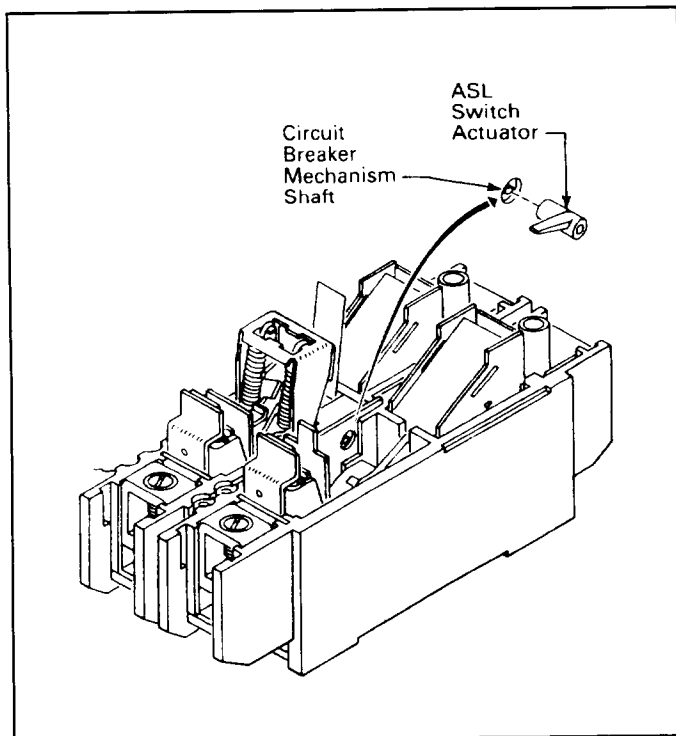

Fig. 2-3 ASL Switch Actuator
- 2-7. Apply one drop of epoxy cement to inside of key hole slot in ASL switch actuator (Fig. 2-3). Wipe off excess cement. Push ASL switch actuator onto circuit breaker mechanism shaft.